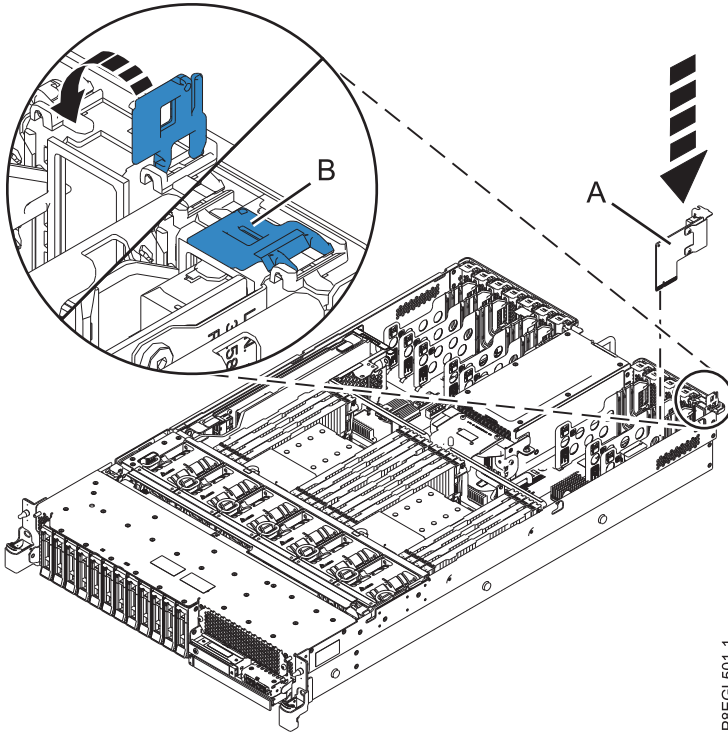

Figure 2. Replacing the system I/O card in a rack-mounted system
2. With the blue locking latch (B) in the open position, align the system I/O card (A) with the guide rails on the system and slide the card straight into the card slot, as shown in Figure 2 on page 5.
3. Rotate the blue locking latch (B) in the direction shown in Figure 2 on page 5 to lock the system I/O card in position.